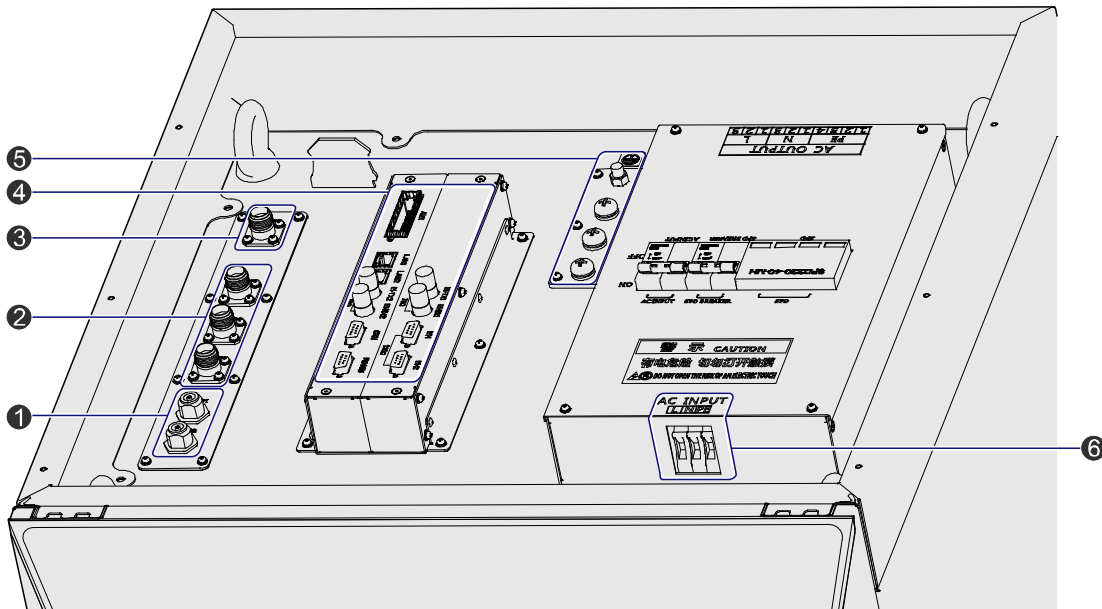

Figure 3-16 External Cable Connection
Step 7 Connect all cables as shown in Figure 3-16.
Cables are described in Table 3-3 and their positions are shown in Figure 3-16. Installation positions